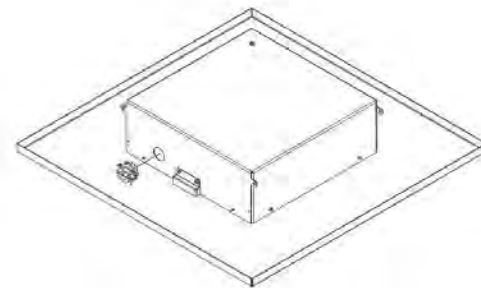

Figure 1
**Step 1** – Place the *ceiling enclosure assembly* on the work surface with the keyed doorway unlocked. Remove hole knock outs located on the outside edge of the back box to install conduit connectors. Install one conduit connector if using P.O.E. or install 2 conduit connectors if bringing in power and data separately (Figure 1).